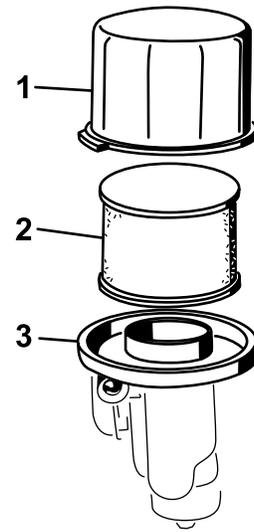

Figure 21
3. Remove the cover and clean it thoroughly (Figure 21).
4. Remove the foam pre-filter from the paper filter (Figure 21), and replace the paper filter if it is excessively dirty.